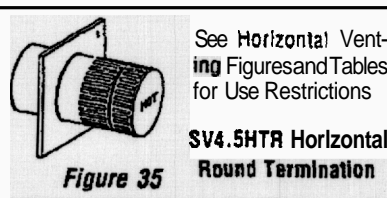

Figure 35
2. Install the round termination (SV4.5HTR) - See Figure 35 for an illustration of the round termination. For the last step, from outside the exterior wall, slide the collars of the termination into the adapter (the outer over the outer and the inner inside the inner) until the termination seats against the exterior wall surface to which it will be attached. Orient the housing of the termination with the arrow pointed upwards. Secure the termination to the exterior wall.
*Note: See Figure 34 for wall thickness range reductions when using SV4.5HTS and Figure 35 when using SV4.5HTSS terminations.